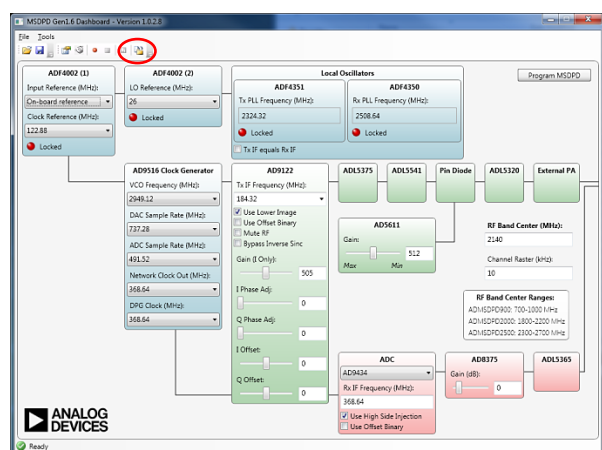

Figure 9. Save Macro As...
4. Once the macro recording has been stopped, click **Save Macro As...** to save the macro (see Figure 9). The macro can then be saved as a .mgs (SPIController Macro Group) file.